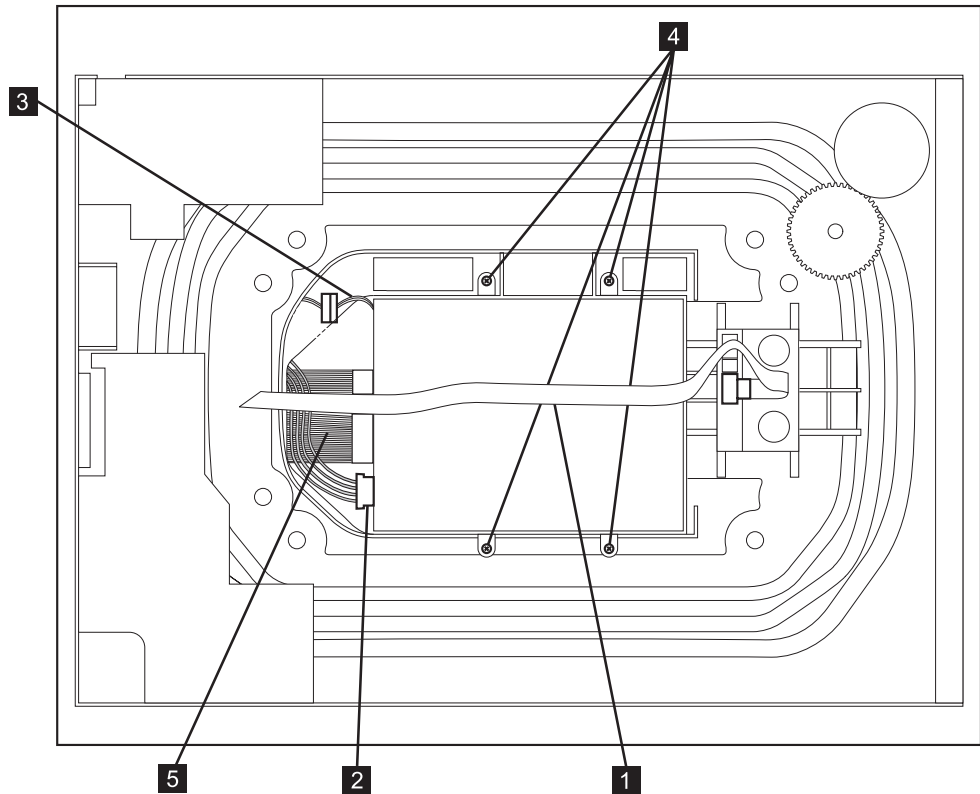

Figure 160. Internal view of drive in Autoloader
- a. Remove the four screws securing the drive ( **4** in Figure 160).
- b. Unplug the SCSI cable ( **5** in Figure 160).
- c. Unplug the power cable ( **2** in Figure 160).
- d. Unplug the RS-422 cable ( **3** in Figure 160). Use a flat blade screw driver to separate the two parts of the connector.